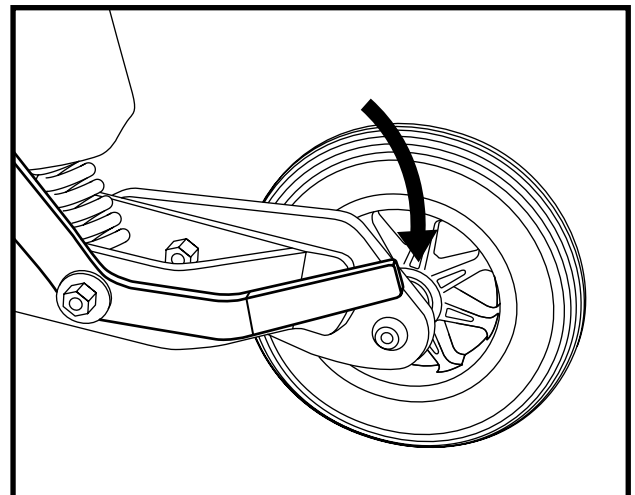

Figure 8. Drive Mode (left side shown)
2. Push down both manual freewheel levers for drive mode (drive motor engaged). See figure 8.